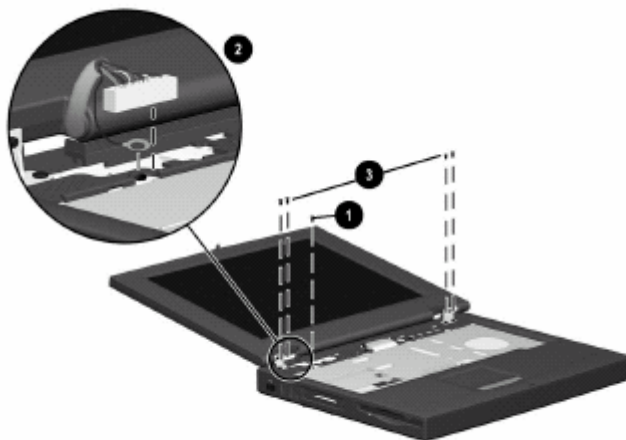

Figure 5-10: Removing the Display
- 8. Remove the M2.5 × 4.5 screw securing the display ground cable to the base enclosure 1 (Figure 5-10).